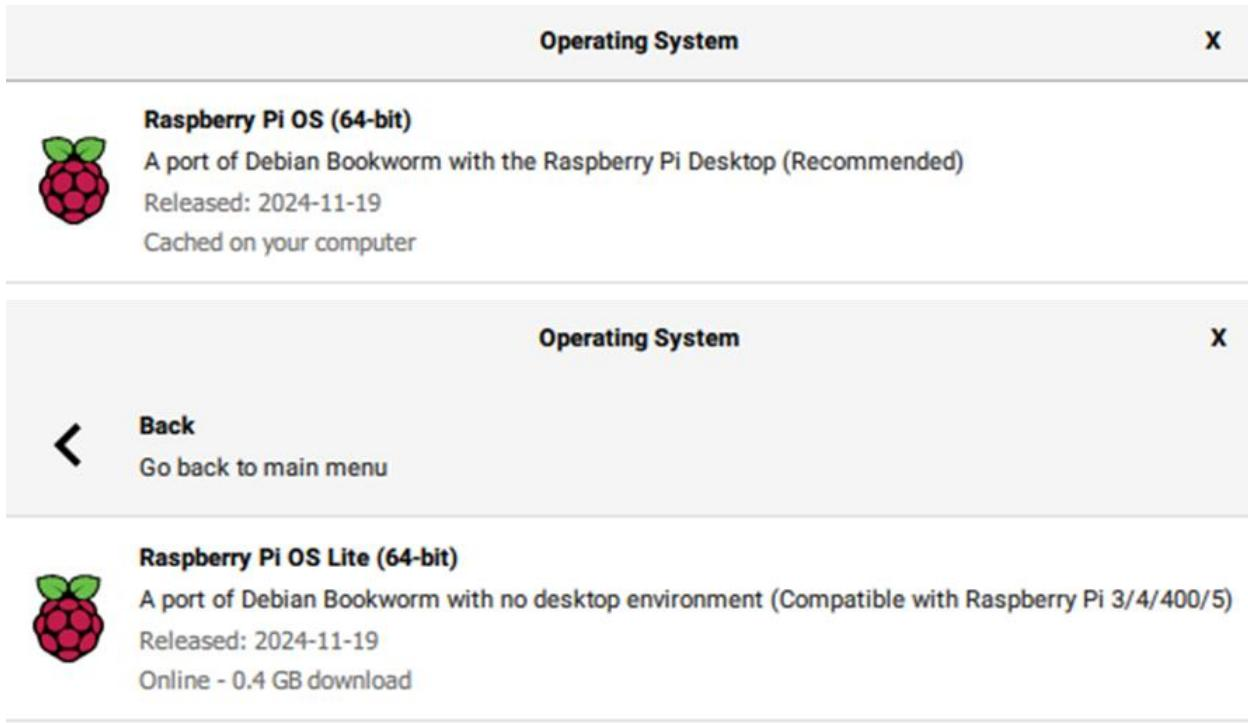

Figure 29. Desktop operating system (top) or headless operating system (bottom).
2. Select the operating system: with or without the desktop. The desktop version is not necessary and will use more power (though you can turn off booting to desktop) but is helpful with the initial setup (Figure 29).